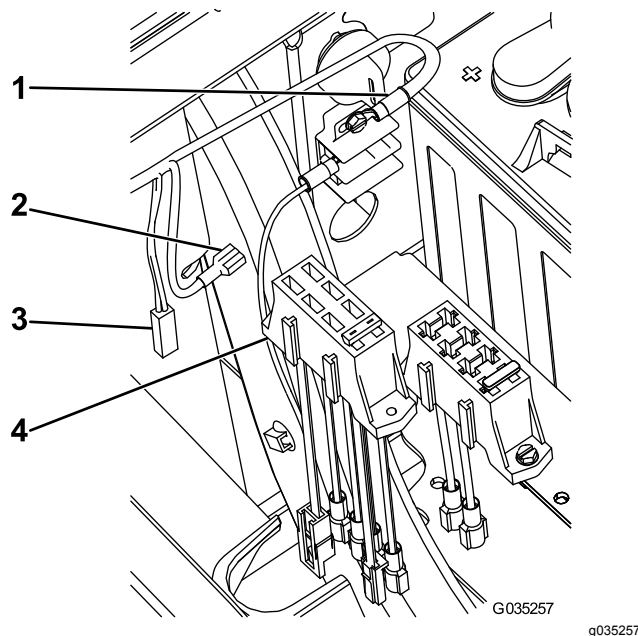

Figure 17
- For machines with Serial No. 403448001 and before, snap the new fuse block onto the existing fuse block on the machine (Figure 17).
- Connect the large connector on the new fuse block to the optional power cable on the existing fuse block (Figure 17).
7. Connect the remaining wire to the fused wire on the new fuse block (Figure 17).
- **For machines with Serial No. 403448001 and before**, snap the new fuse block onto the existing fuse block on the machine (Figure 17).
2. Connect the large connector on the new fuse block to the optional power cable on the existing fuse block (Figure 17).
6. Connect the remaining wire to the fused wire on the new fuse block (Figure 17).